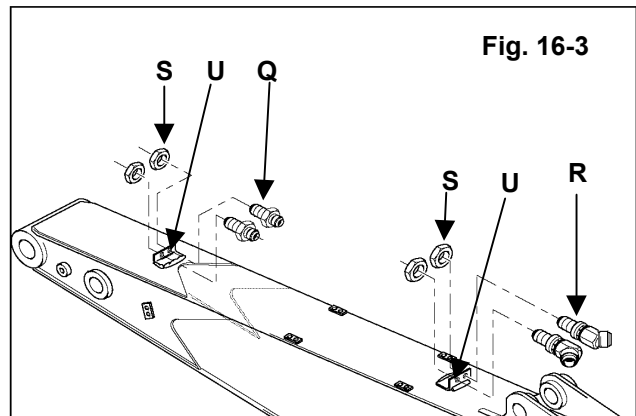

Fig. 16-3
12. Install the bulkhead fittings into the Upper Bulkhead Fittings Bracket. This bracket uses the 45 degree bulkhead fittings (**Chart# 5 - R**) and the fittings are secured by the bulkhead nut (**Chart #5 - S**). See **Fig 16-3**.
13. Install the bulkhead fittings into the Lower Bulkhead Fittings Bracket. This bracket takes the straight bulkhead fittings (**Chart #5 - Q**) and the fittings are secured by the bulkhead nut (**Chart #5 - S**). See **Fig. 16-3**. If you have a #4N-212 kit, you will need to install the #6 X #4 Tube End Reducer and Nut (**Chart #5 - Y & Z**) onto the end of the bulkhead fittings.